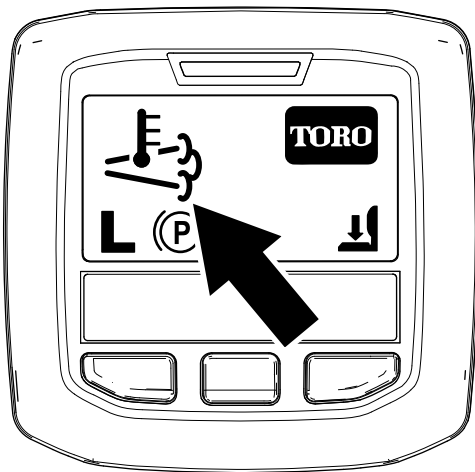

Figure 45
- The high exhaust-temperature icon  displays in the InfoCenter (Figure 45).